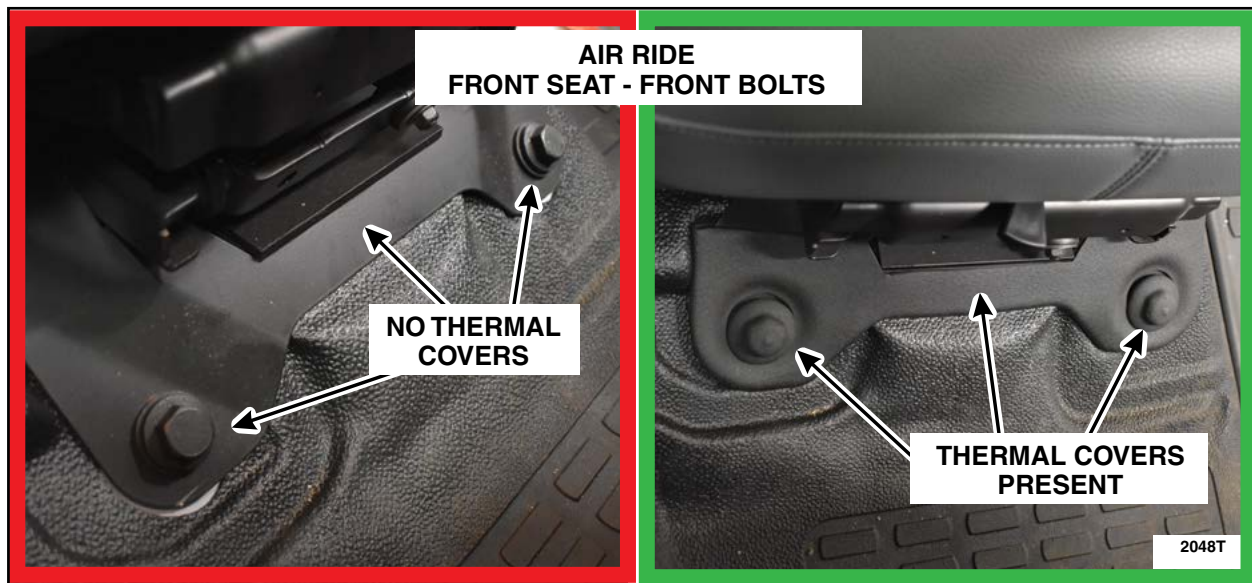

FIGURE 9
Super Cabs and Crew Cabs - a. Covers and sleeve on front seat, front bolts (4). See Figure 9